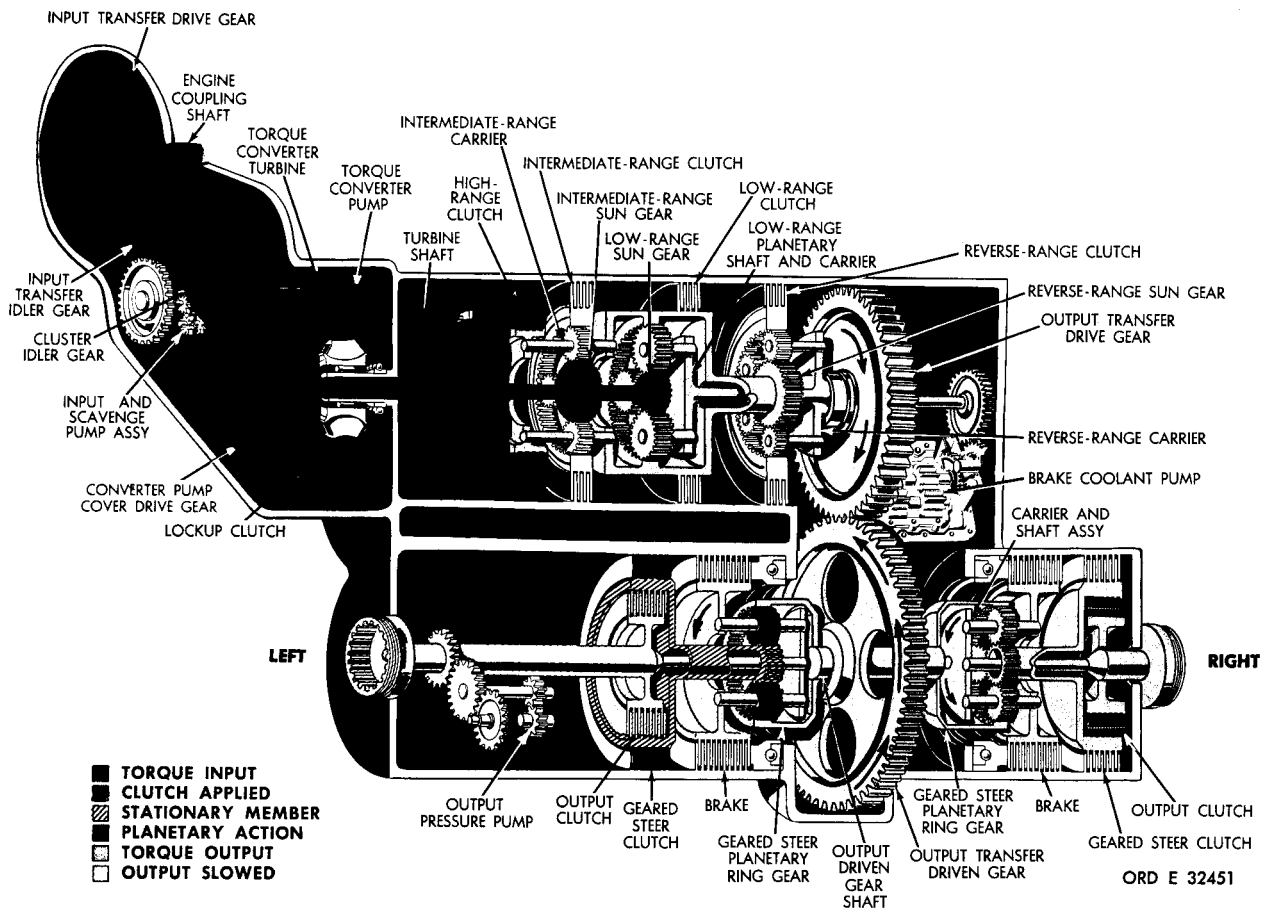

Figure 32. Fourth-gear, full-left-steer torque path, lockup operation
**56. TORQUE PATH - FOURTH GEAR, FULL-LEFT STEER, LOCKUP OPERATION (fig. 32)**